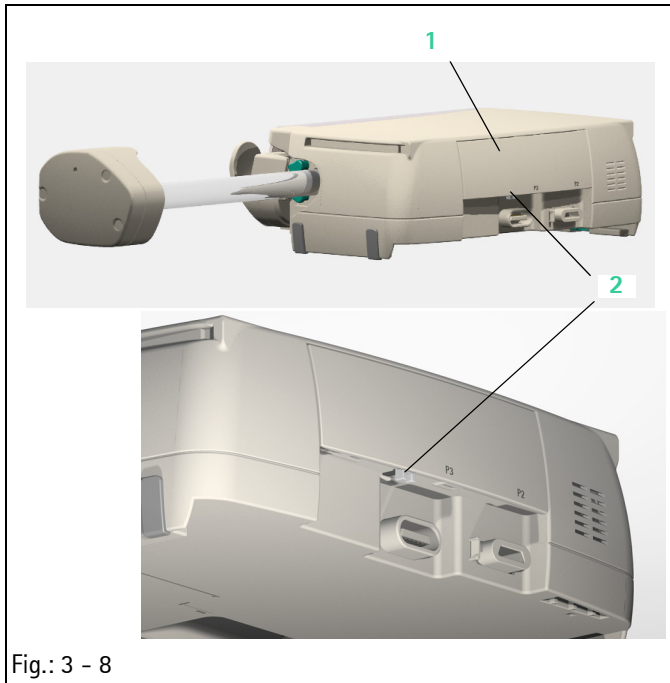

Fig.: 3 - 8
Legend of fig. 3 - 8:
1. Press the lock (Fig.: 3 - 8 / Item 2) on the battery compartment cover (Fig.: 3 - 8 / Item 1) and remove the battery compartment cover.